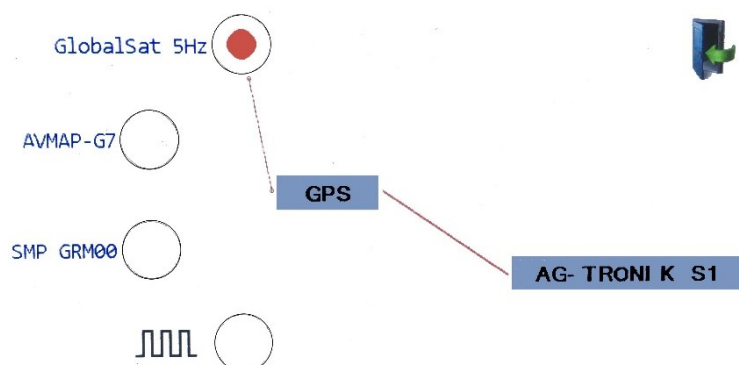

Figure 27
- From main menu (Figure 27) enter sub window by pressing  icon and select GloabalSat 5Hz (Figure 27).